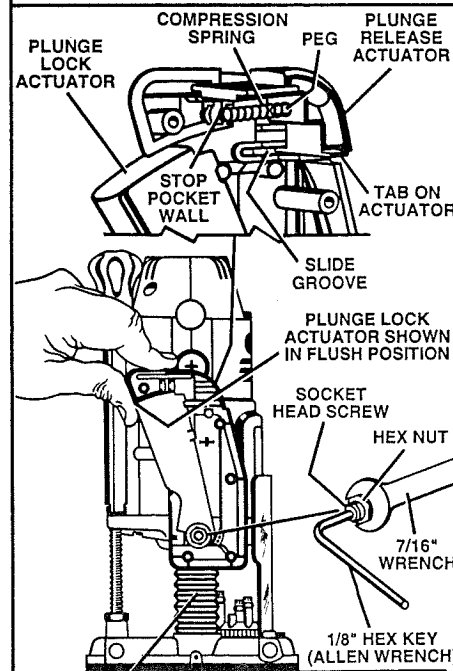

Fig. 33
6. Depress plunge lock actuator until it is flush with handle as shown in figure 33.